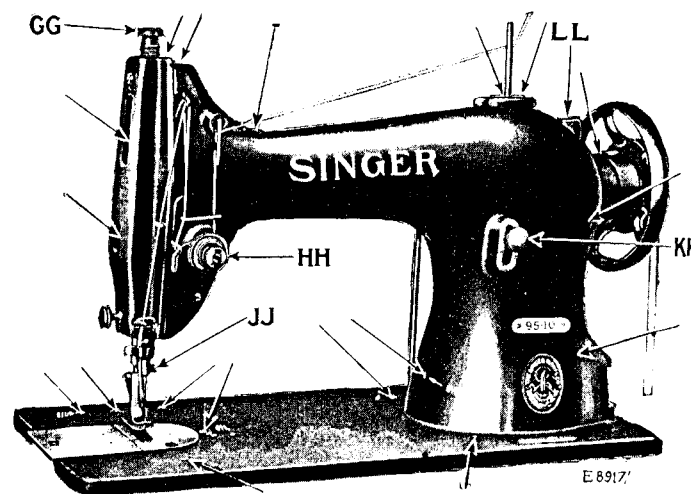
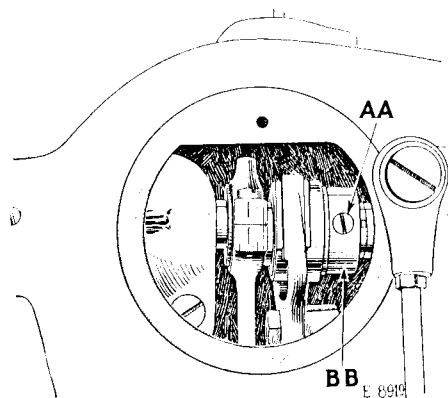

FIG. 14. OILING POINTS AND ADJUSTMENTS AT THE FRONT OF THE MACHINE
FIG. 24. ADJUSTMENT FOR TIMING FEEDING MECHANISM
Turn the balance wheel over toward you until the needle bar moves up to its highest point; loosen the screw (JJ, Fig. 14, page 11) in the lower end of the needle bar and put the needle up into the bar as far as it will go, with the long groove of the needle toward the left and the eye of the needle directly in line with the arm of the machine, then tighten the screw.
The tension on the needle thread should only be regulated when the presser foot is down. Having lowered the presser foot, turn the small thumb nut (HH, Fig. 14, page 11) at the front of the tension discs over to the right to increase the tension. To decrease the tension, turn this thumb nut over to the left.
The length of stitch is regulated by the thumb screw (KK, Fig. 14) in the slot on the front of the upright part of the arm. To lengthen the stitch, loosen this thumb screw and move it downwardly. To shorten the stitch, loosen this thumb screw and move it upwardly. When the desired length of stitch has been obtained, tighten the thumb screw (KK).
The pressure on the material is regulated by the thumb screw (GG, Fig. 14.) To increase the pressure, turn this thumb screw over to the right. To decrease the pressure, turn this thumb screw over to the left.
Oil should be applied at the places as shown by arrows in Figs. 14, 15 and 16, and when the machine is in continuous use
Sufficient oil should be applied to the wicking which is retained in the oil tube (LL, Fig. 14) to keep the wicking saturated. This tube conducts the oil to the arm shaft gears.
When it is necessary to time the feeding mechanism, press the stitch regulator (KK, Fig. 14, page 11) down to its lowest point for the longest stitch and turn up the round cover plate at the back of the machine. Loosen the feed eccentric set screw (AA, Fig. 24) and turn the feed eccentric (BB, Fig. 24) until the feed is correctly timed as instructed above, then securely tighten the set screw (AA).